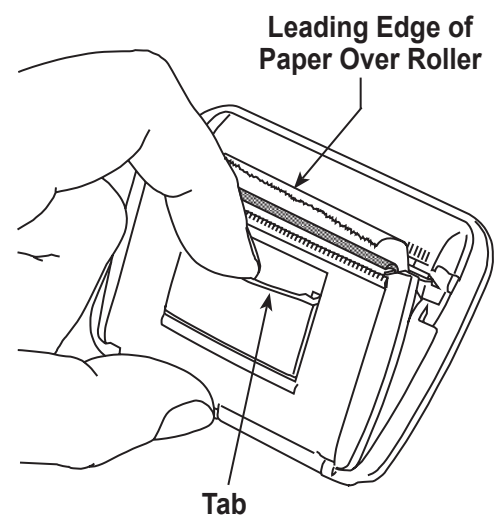

Figure 10
1. Remove the cover on the printer by pulling out on the tab as shown in Figure 10.
8. Place the printer into the cut-out area on the control panel. Press the face of the printer flush to the panel, oriented with the paper coming out at the top of the printer as shown in Figure 10.